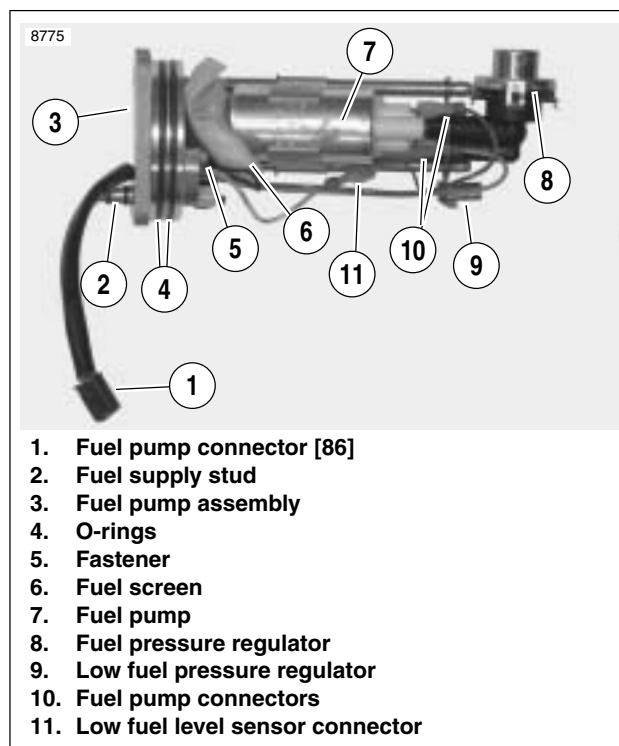
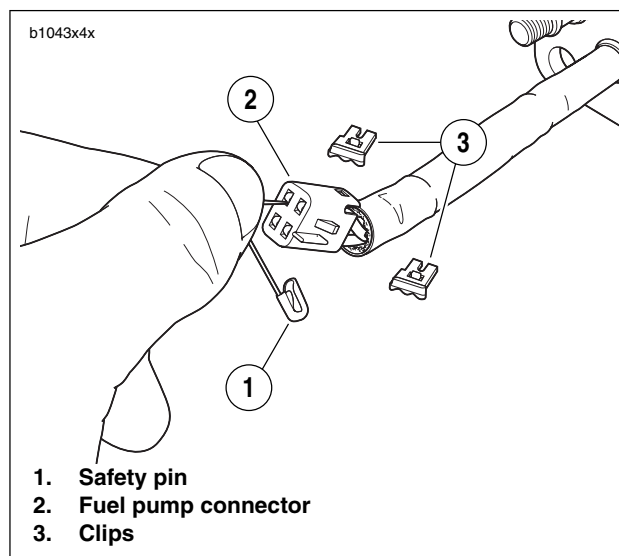

Figure 4-87. Fuel Pump Assembly (left side)
Figure 4-91. Fuel Pump Connector Disassembly
2. See Figure 4-87. Pry four tabs of clip holding fuel pressure regulator (8) in place. Detach regulator from regulator housing.
4. See Figure 4-87. Disconnect fuel pump connectors (10) and low fuel level sensor connector (11).
6. Pry fuel screen (6) from fuel pump (7).
11. See Figure 4-87. Connect low fuel level sensor wiring (11).
12. Connect fuel pump connectors (10). Connectors are two different sizes.
4. See Figure 4-87. Disconnect fuel pump connector (10) and low fuel level sensor connector (11).
- a. See Figure 4-91. Remove connector clips (3).
- b. Insert push pin/safety pin (1), into connector as shown.
8. See Figure 4-87. Remove screw (5).
11. See Figure 4-87. Insert **new** fastener (5), through ground wire terminal and secure to fuel pump assembly. Tighten to 18-22 **in-lbs** (2.0-2.5 Nm).
16. See Figure 4-87. Connect low fuel level sensor connector (11).
17. Connect fuel pump connectors (10). Connectors are two different sizes.
1. See Figure 4-87. Replace o-rings (4). Lubricate **new** o-rings with **clean** engine oil.
2. Install **new** o-rings on fuel supply stud (2). Larger o-ring is located in groove closer to fuel pump.